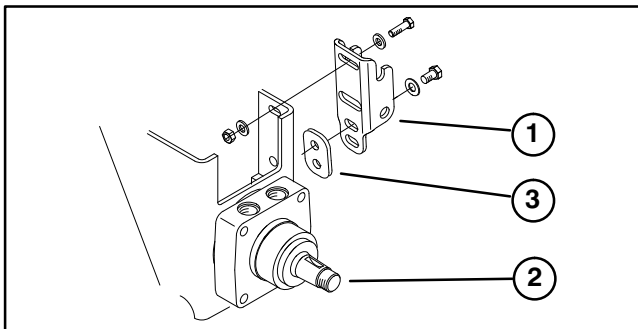

Figure 6
MOUNT BLOWER (Fig. 6–8)
A. On Sand Pro 2020/3020 – Mount top of receiver bracket to frame with a 3/8–16 x 1.50" lg. cap screw, (2) .40 I.D. x .81 O.D. flat washers and locknut. Mount bottom of receiver bracket to frame with a 1/2–13 x .875" lg. cap screws and (2) .56 I.D. x 1.063 O.D. flat washers. Position components as shown in figure 6.
Note: Spacer, shown in figure 6, is also required if machine is equipped with fenders.